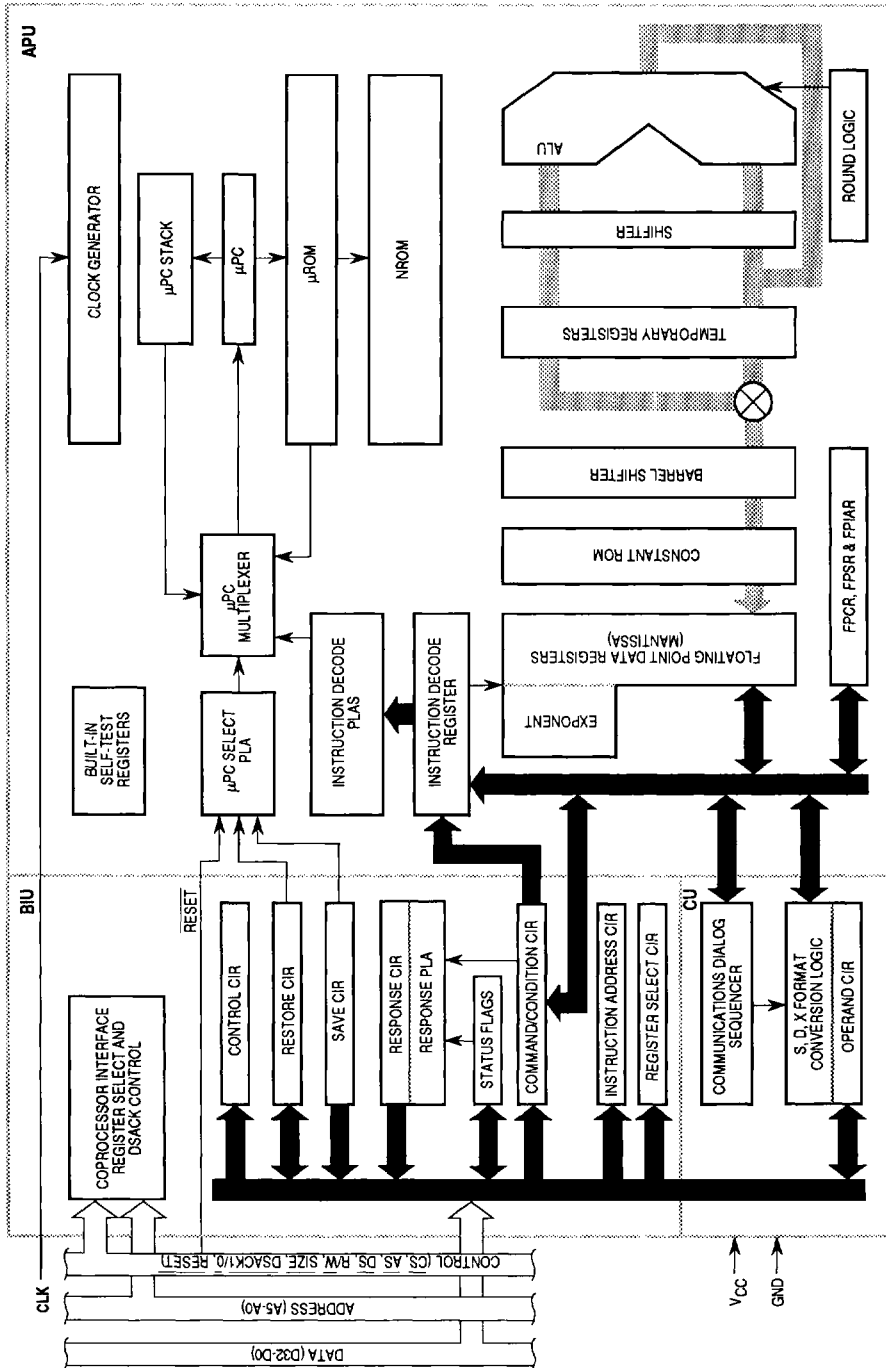

Figure 8. Simplified Block Diagram
As shown in Figure 8, the MC68882 is internally divided into three processing elements: the bus interface unit (BIU), the conversion unit (CU), and the arithmetic processing unit (APU). The BIU communicates with the MC68020/MC68030, the CU performs data conversion for binary real data formats, and the APU executes all MC68882 instructions.